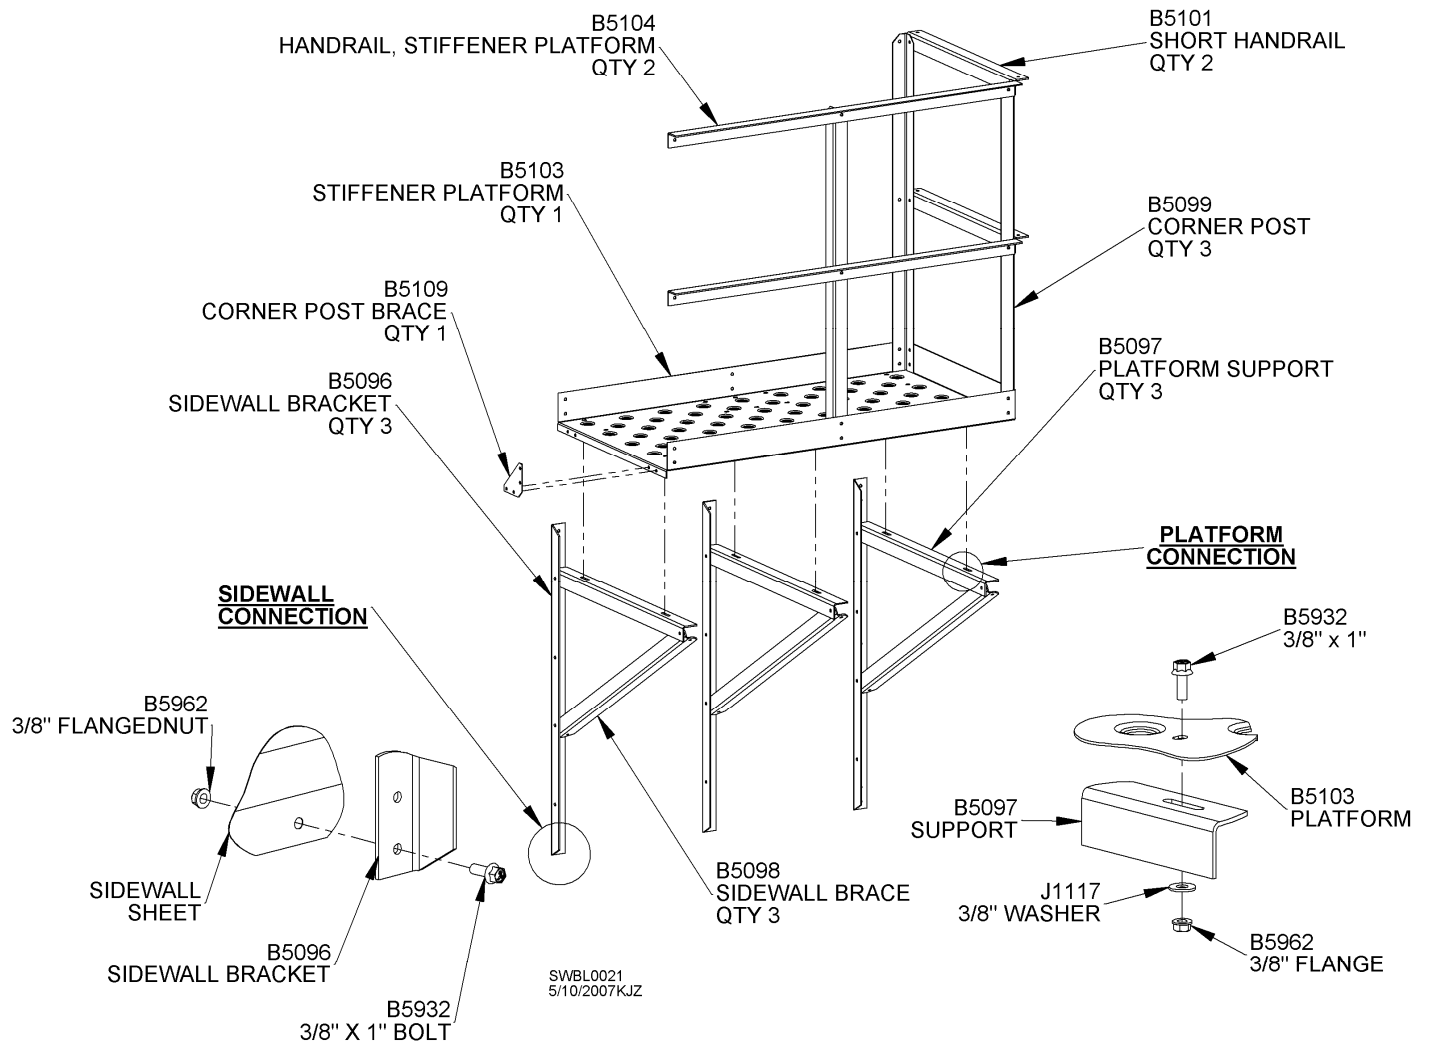

Fig. 22
Attach platform to top of platform supports and fasten the three (3) corner posts to 4" toeboard. Fasten long and short platform handrails to corner posts. See Fig. 22. Only three (3) corner posts are shown. Platform and handrails will attach to extensions that will be connected to cage.